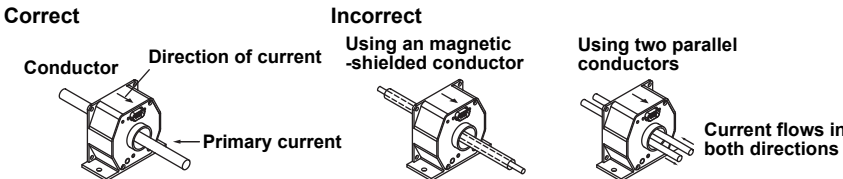

Figure 3. Insertion of a Conductor
- Insert the primary conductor into the primary conductor feed-through hole on the device. Make sure that the direction of current flow matches the arrow on the device. Figure 3 is for the examples in use with CT200 and CT60. The same idea is applied to CT1000 as well.